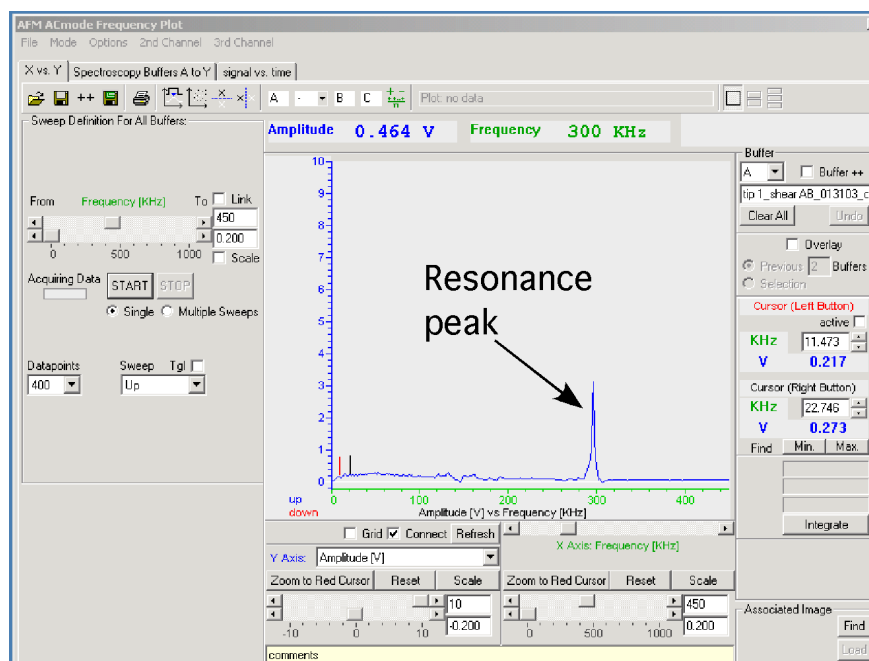

Figure 4.12
- The Resonance peak indicates the resonant frequency of the cantilever (shown in Figure 4.12 below).